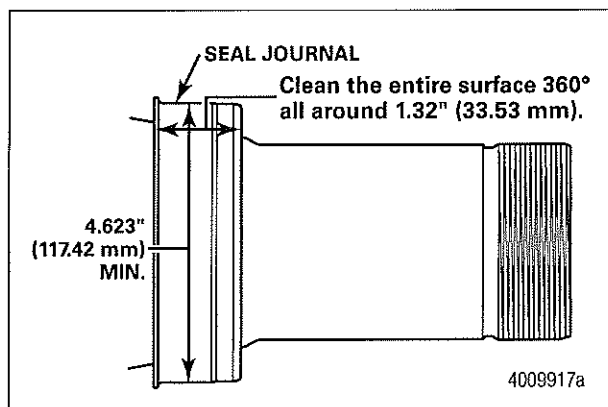

Figure 16
4. Measure the collar to ensure the diameter is 4.623-4.630-inches (117.42-117.6 mm). Figure 16.